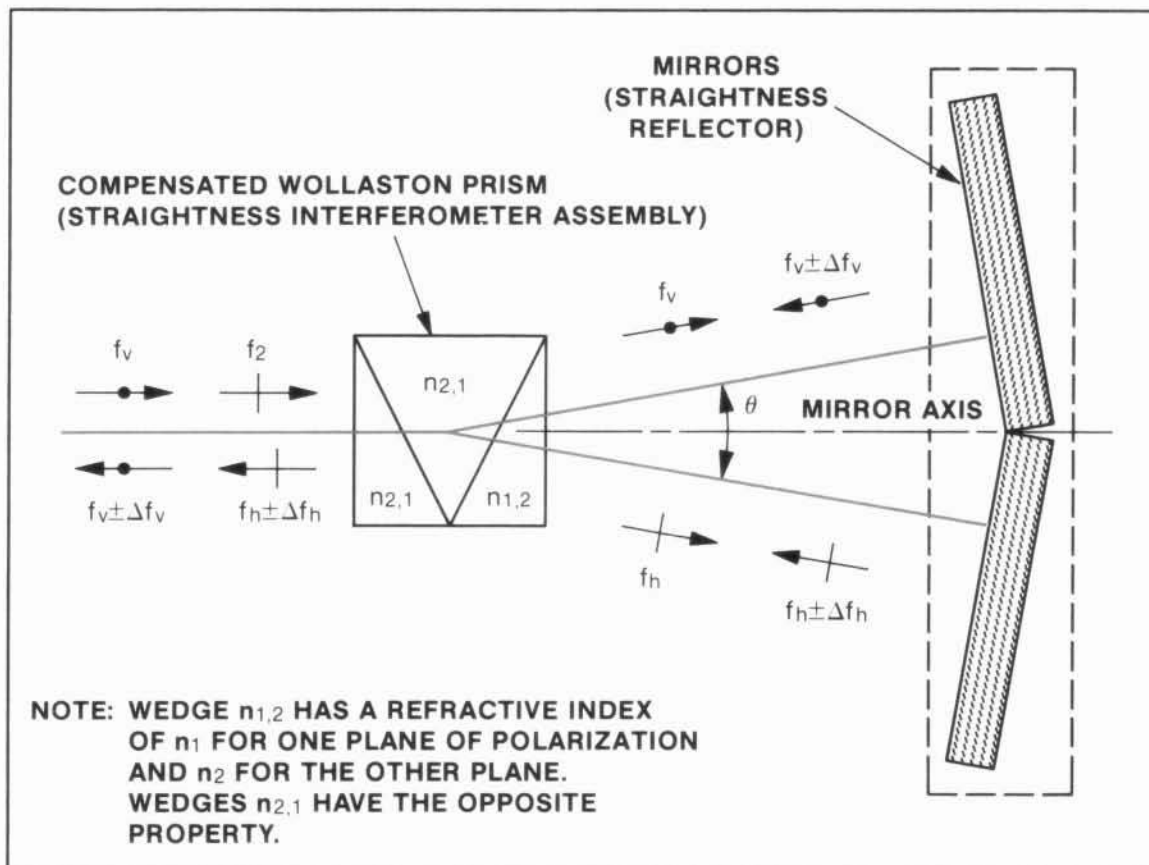

Figure G-5. Straightness Measurements
Figure G-5 shows the laser beam path in the straightness optics. Initially, the two paths from the interferometer have the same length. As one of the optics is moved along the axis of travel, both beams will increase or decrease in length at the same rate. If the moving optic, either the straightness interferometer or straightness reflector, moves perpendicular to the intended axis of motion, the relative lengths of the two beams will change. The change in relative path lengths will be
- c. Align the Straightness Reflector so that its mirror axis (see *Figure G-5*) is parallel to the laser beam and axis of travel. This mirror axis forms the optical straight-edge (analogous to a traditional straight-edge).